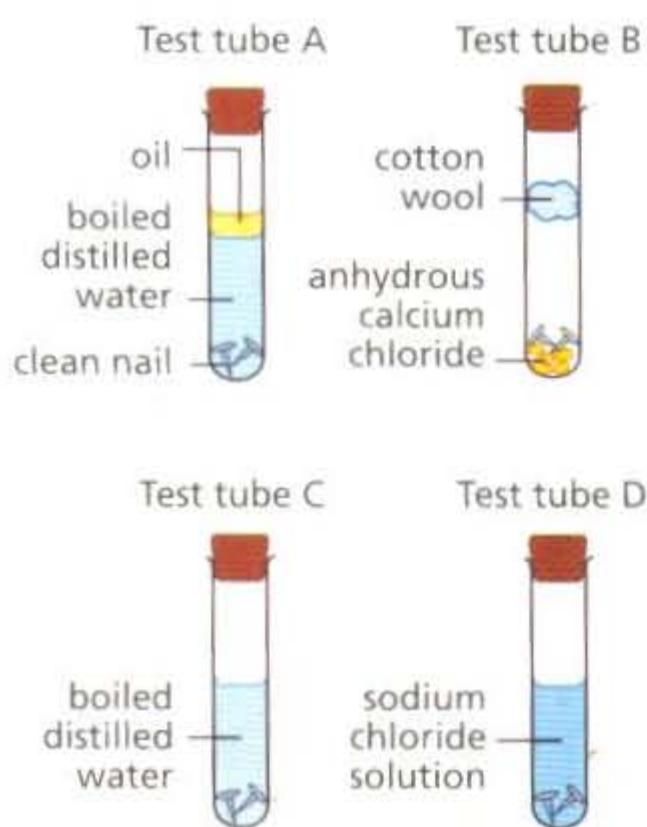

Fig. 14.21 Studying the conditions necessary for rusting
- The iron nails are then placed in four different test tubes as shown in Fig. 14.21.